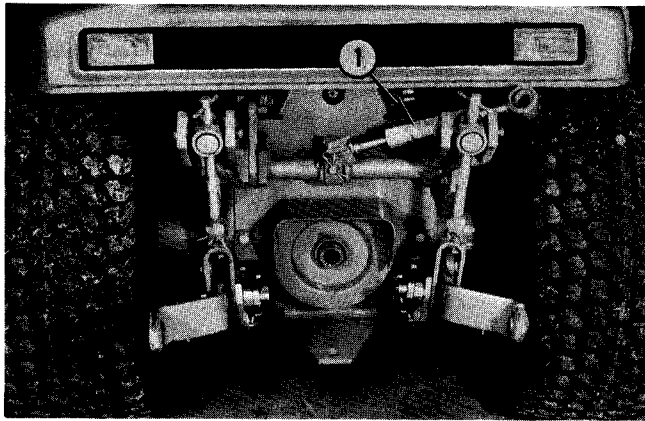

Fig. 57 — Top Link
5. Raise 3-point hitch when not in use and store top link in position shown in Fig. 57.